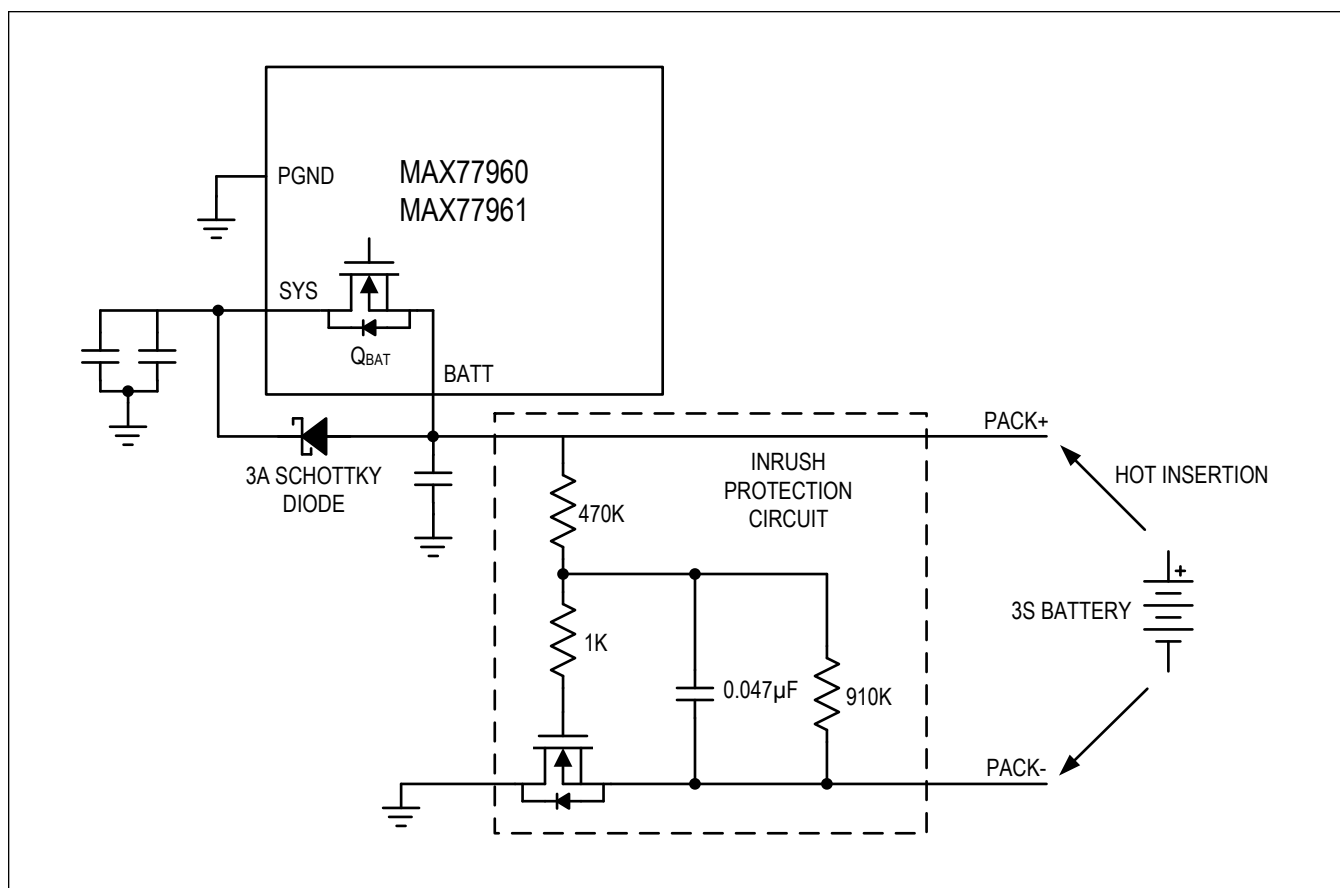

Figure 15. Battery Insertion Protection with 3S Battery
- For system designs with a 3S battery, the inrush current is higher than a 2S battery due to higher battery voltage. In addition to the 3A Schottky diode from BATT to SYS, it is required to include an inrush protection circuit. The inrush protection circuit consists of an FET and RC network. See Figure 15 for a complete solution. At battery hot insertion, VGS of the FET is slowly charged by the RC network. The FET gradually turns on and limits the inrush current. For FET selection, check the current and voltage rating of the FET to guarantee that it satisfies the system specification.